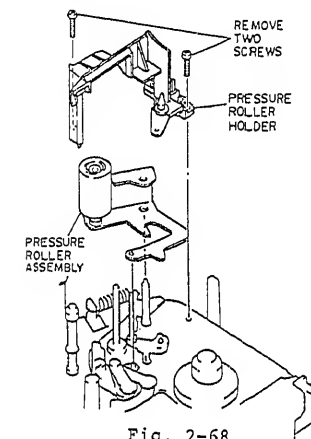

Fig. 2-68
1. Remove two (2) screws holding the pressure roller holder. (See Fig. 2-68)